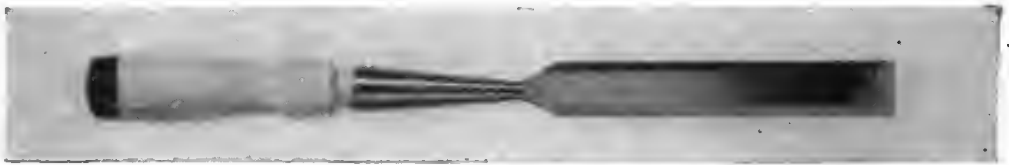

Figure 103. Woodworking chisel.
g. CHISEL. (1) A woodworking chisel is shown in figure 103. The chisel blade is made of hard steel similar to the blade of a plane. The handle is usually made of wood. It has a leather or metal ring to prevent the wood from splintering when a mallet is used.